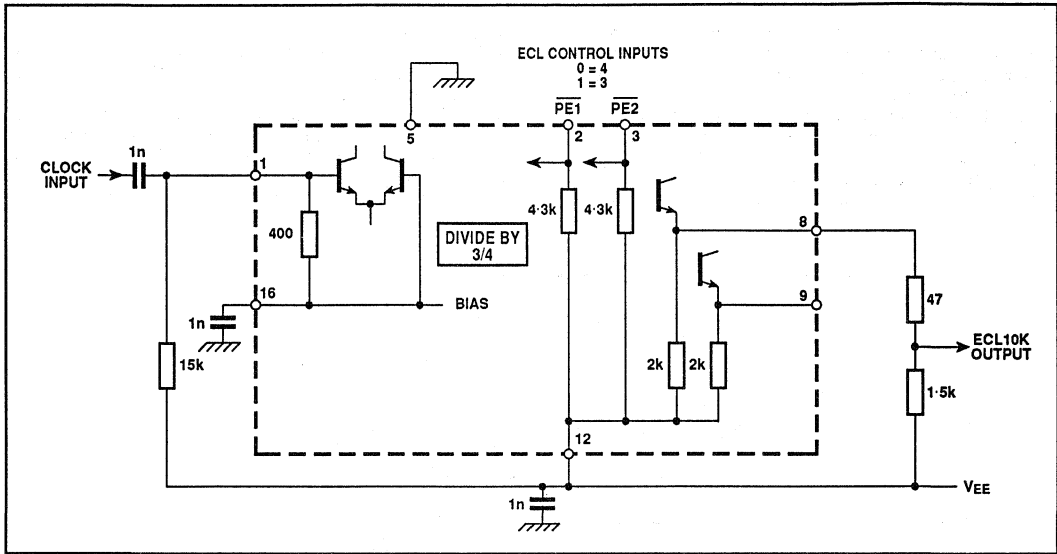

Fig. 7 Typical application circuit showing interfacing
4. The Q and \bar{Q} outputs are compatible with ECL10K but can be interfaced to ECL10K as shown in Fig. 7. There is an internal circuit equivalent to a load of 2kΩ at each output.